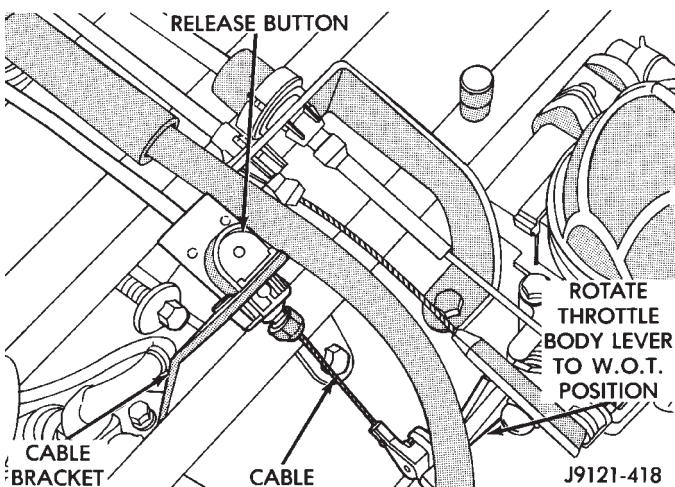

Fig. 6 Throttle Valve Cable Adjustment
(3) Push cable conduit back into cable adjuster body as far as possible (Fig. 6).
(4) Rotate throttle body lever to wide open throttle position. Cable will ratchet to correct adjustment point as lever is rotated (Fig. 6).